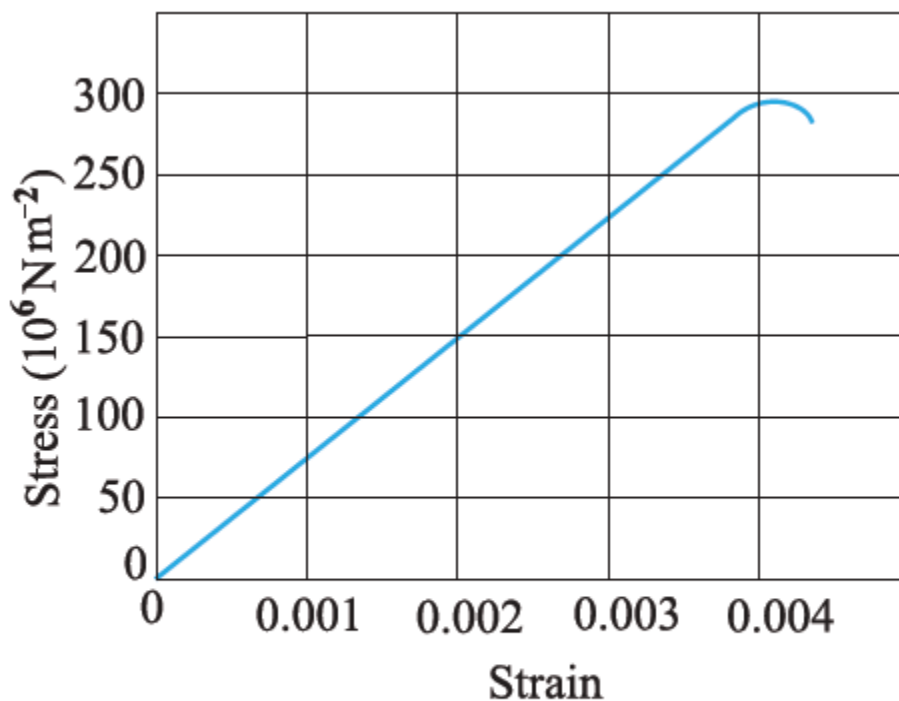

Fig. 9.11
9.2. Figure 9.11 shows the strain-stress curve for a given material. What are (a) Young's modulus and (b) approximate yield strength for this material?